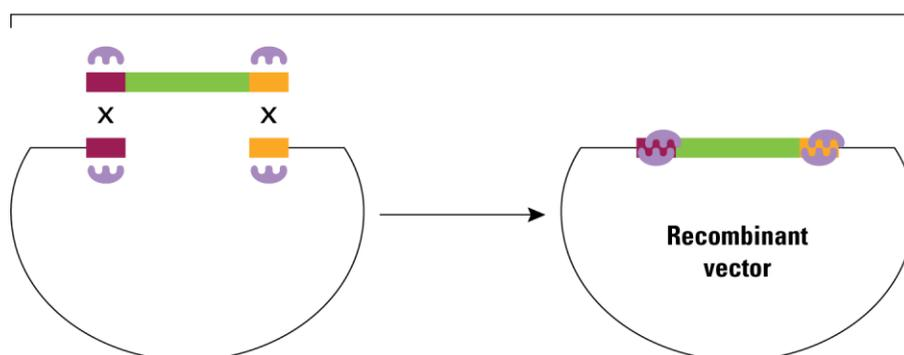

Figure 4. Simple, one-step cloning with In-Fusion HD PCR Cloning Kits.
- One-step directional cloning (Figure 4)